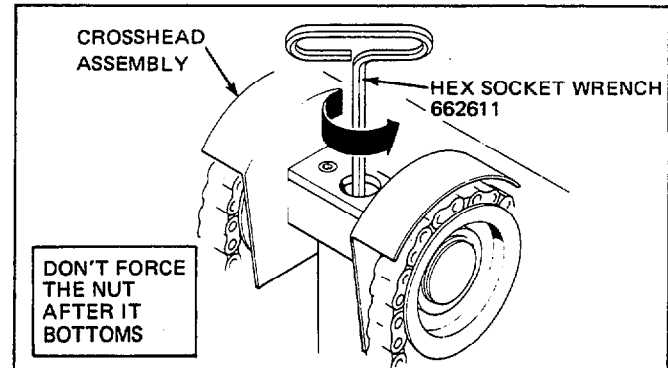

Figure 20. Turning the Adjusting Nut Counterclockwise
3. Turn the adjusting nut counterclockwise until it bottoms. The nut is crimped slightly to prevent free-turning so it may be a little stiff. **Don't force the nut after it bottoms.** See Figure 20.